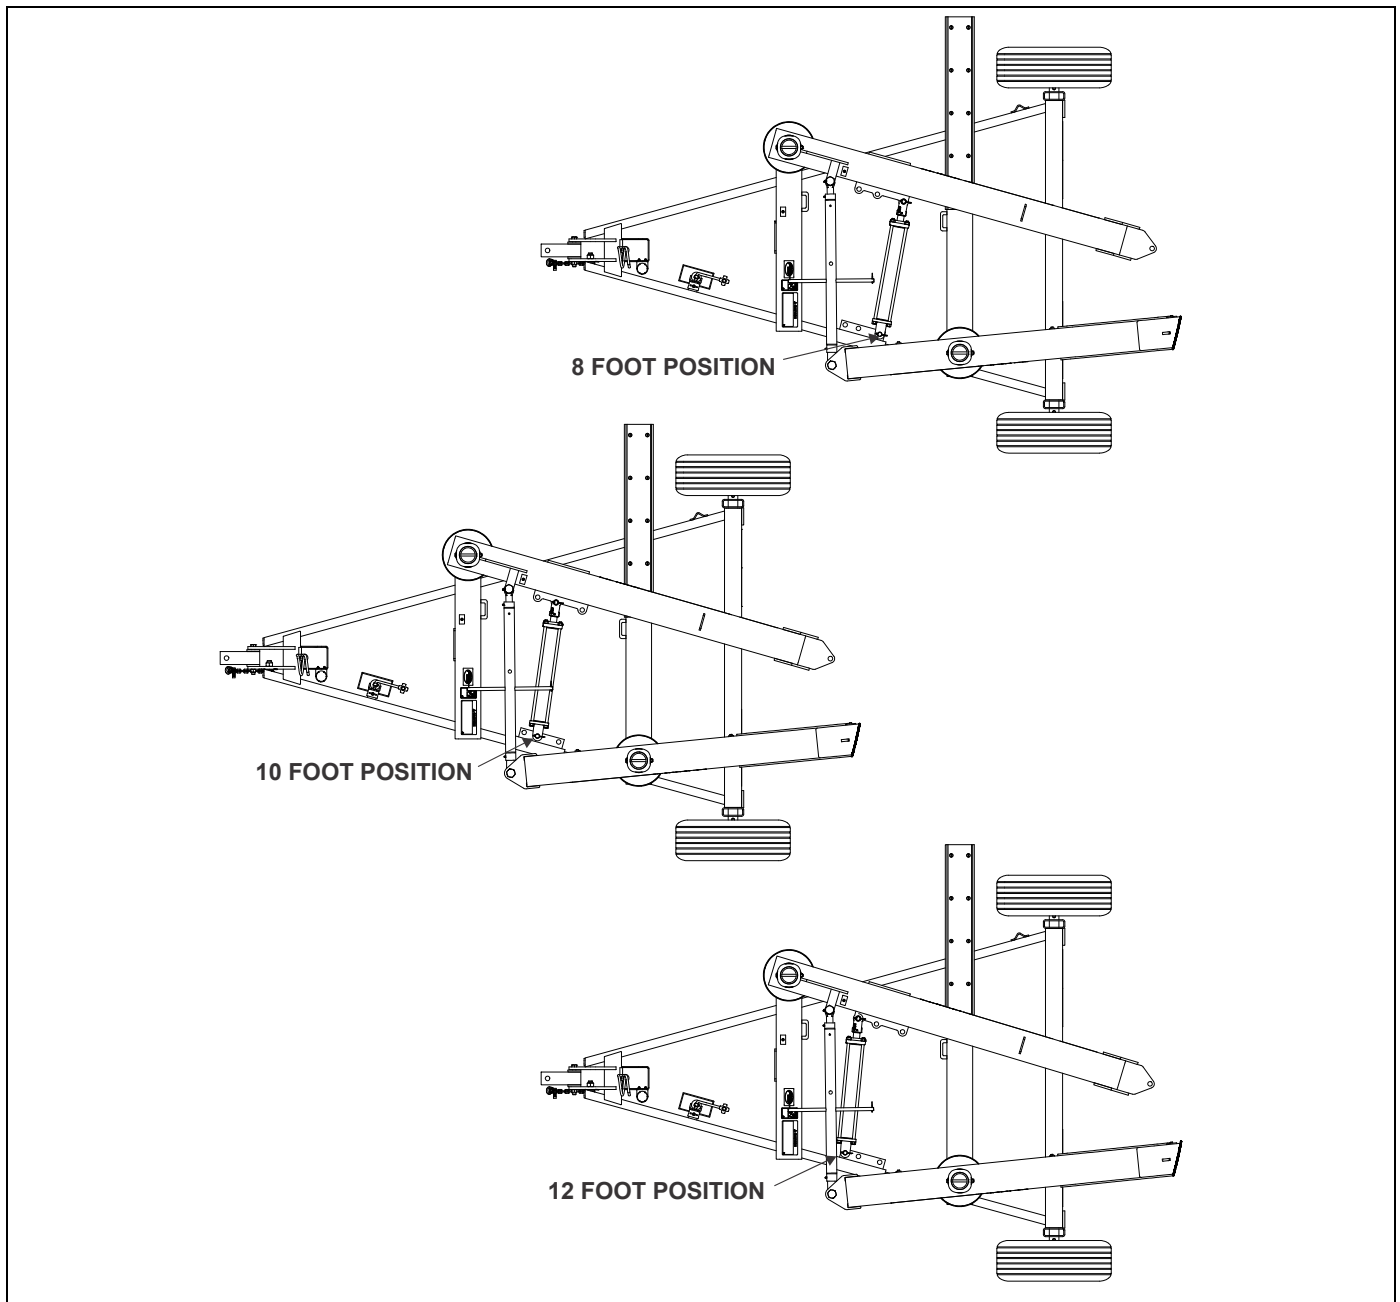

Figure 2-7: Hydraulic Cylinder Installation
1. With the Cylinder ports facing forward and using the Pin and Cotter Pins provided with the Cylinder, attach the base end of the Cylinder to the proper hole in the 3 hole plate on the Drawbar Frame based on the seeder width being used. See Figure 2-7.